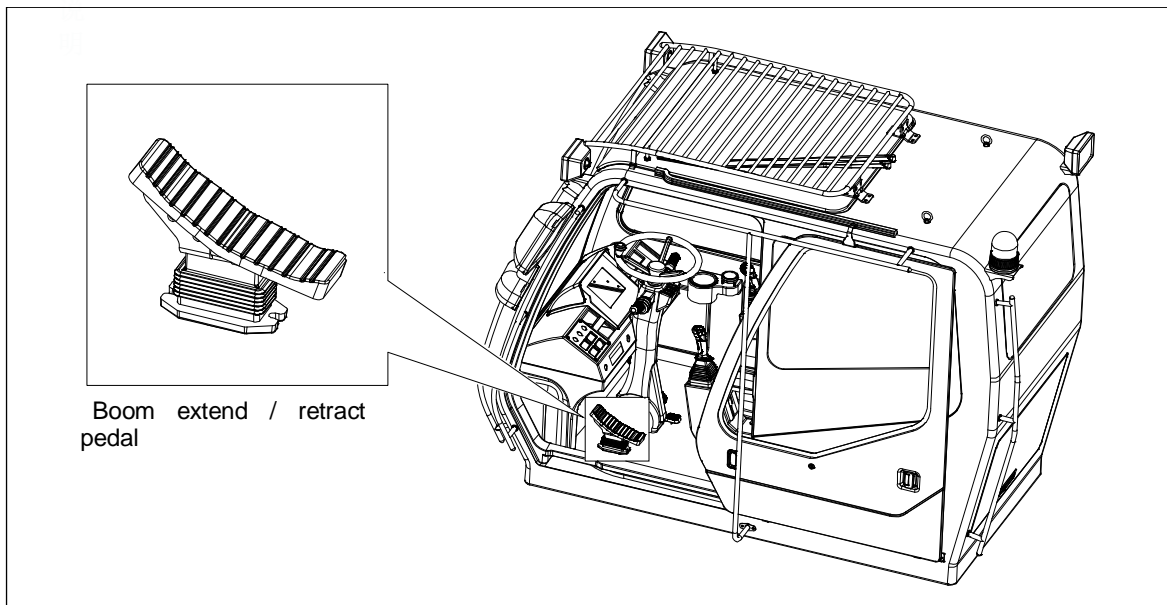

Figure 7-12 Boom Extend / Retract Pedal
- B. The boom extend / retract pedal controls the telescoping movements. Refer to Figure 7-12.